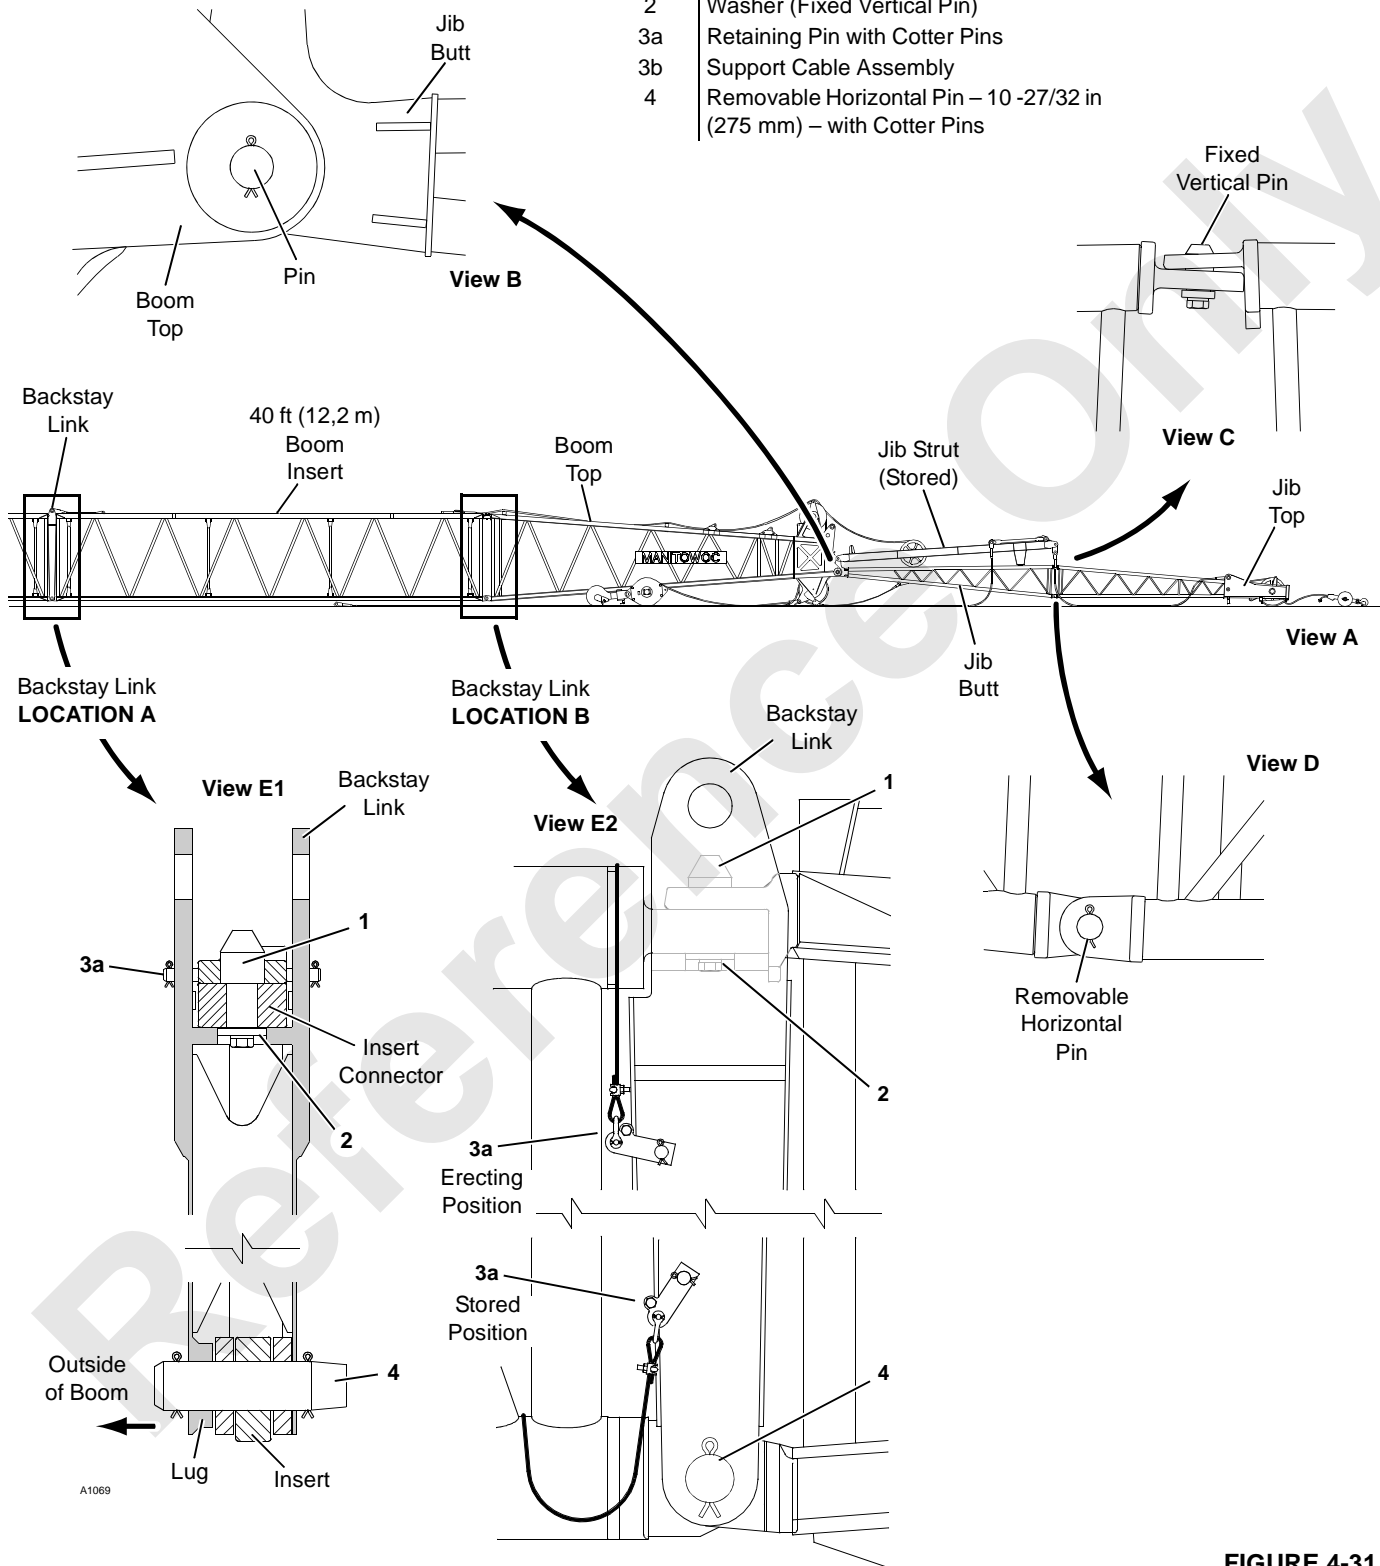

FIGURE 4-31
4. Install jib backstay links between boom sections at Location A or B, Figure 4-31. **See Jib Assembly Drawing for proper mounting location.**
**Lug at bottom connecting holes in link must be toward outside of boom.** (Figure 4-31, View E1).
- c. Lift backstay link upward and engage hole in link with washer (2, Figure 4-31, View E1) on underside of insert connector.
- d. For Location A, install retaining pin (3a, Figure 4-31, View E1) through holes on butt side of link to prevent link from falling off insert.
For Location B, move support cable assembly (3b, Figure 4-31, View E2) from stored position to erecting position to prevent link from falling off insert. If necessary, adjust cable length so bottom connecting holes are aligned when assist crane is disconnected.
**Replace standard horizontal connecting pins with 10-27/32 in (275 mm) long pins (4, Figure 4-31, View E) supplied with backstay links.**
**NOTE:** The jib strut is shipped in the stored position on the jib butt (Figure 4-31, View A).
2. Align holes in jib butt with holes in boom top and install connecting pins (Figure 4-31, View B).
- The top connectors are joined by fixed vertical pins that hook into holes in the adjacent section (Figure 4-31, View C).
- The bottom connectors are joined by removable horizontal pins (Figure 4-31, View D).